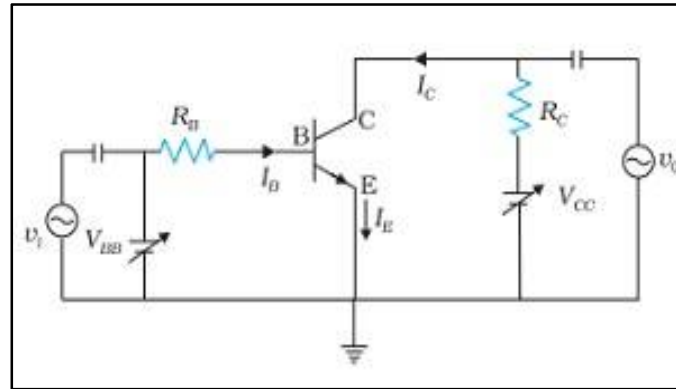

Fig.2.23: Common Emitter Transistor Amplifier
A transistor in which the emitter terminal is made common for both the input and the output circuit connections is known as common emitter configuration. When this configuration is provided with alternating current (AC) supply and operated in between both positive and the negative halves of a.c. cycle to generate the specific output signal is known as common emitter amplifier. In this type of configuration, the input is applied at the base terminal and the output is to be collected across the collector terminal. Emitter terminal is common in both the cases of input as well as output as shown in fig.2.23.